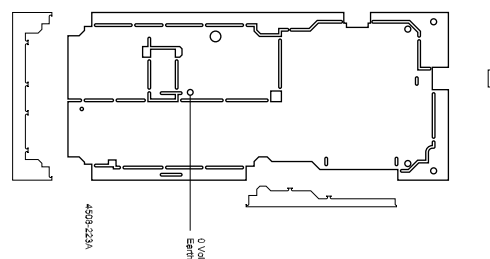

Figure 6.8: Frame 4 to 7 Control Board Biscuit
- 8) The replacement Control board will be in biscuit format i.e. it will have to be trimmed to the same size as the existing board size as per figure 6.8. This is done with a fine pair of side cutters.